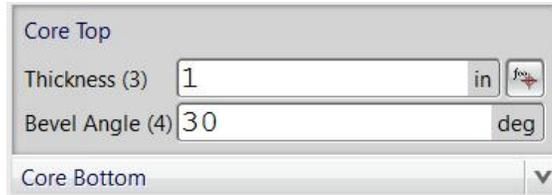

Figure 7–16
7. Press <Ctrl>+ <T> to switch to the Table view. The updated form displays as shown in Figure 7–17.